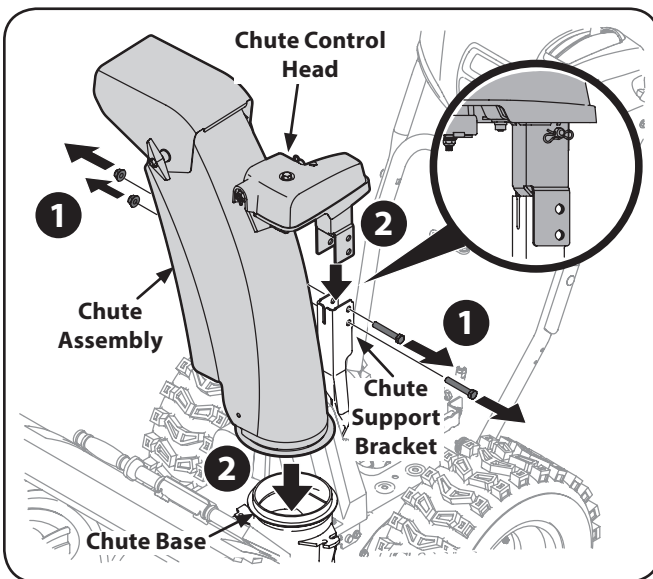

Figure 3-5
1. Remove the lock nuts and hex screws from chute support bracket. Position the chute assembly over the chute base. See Figure 3-5 .